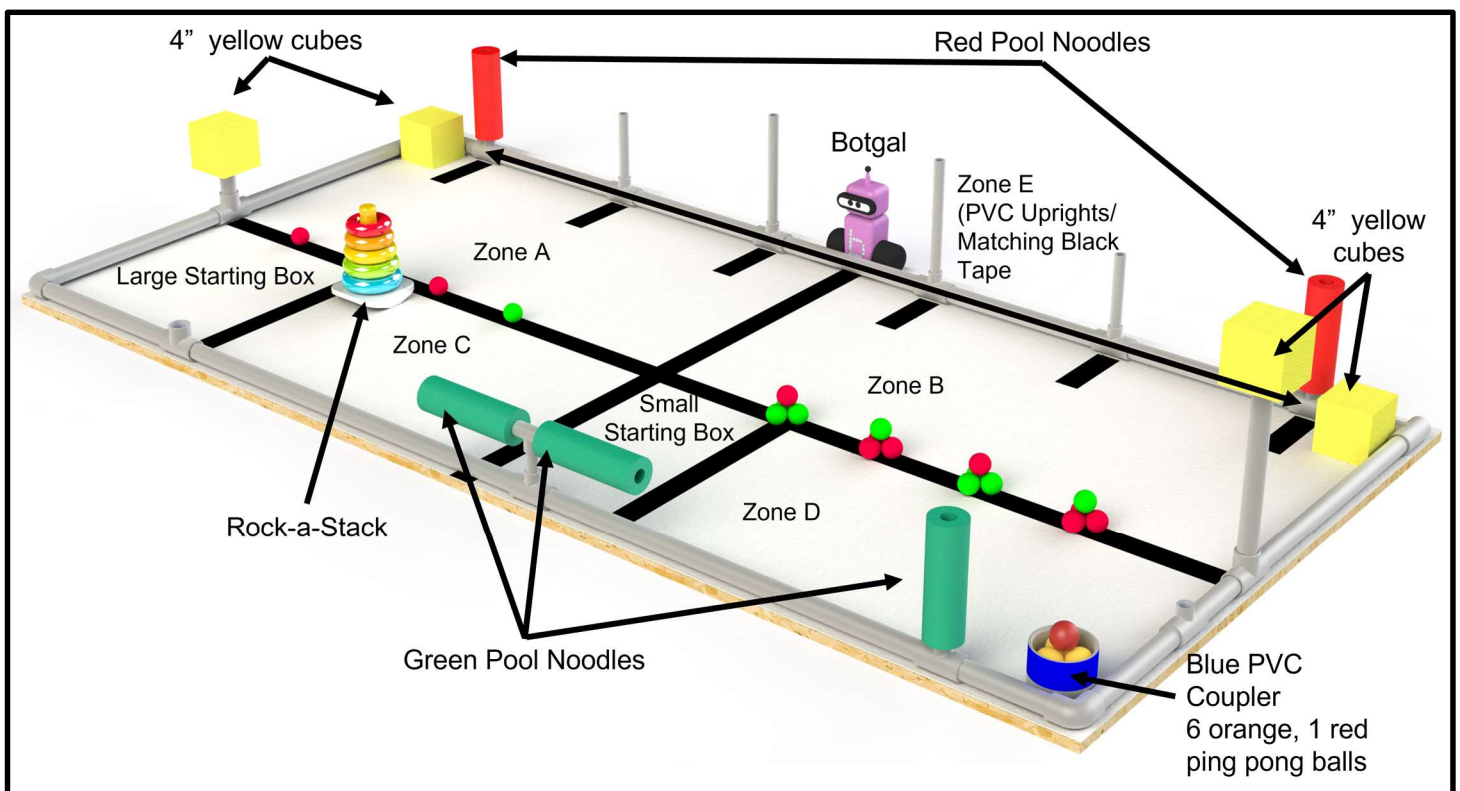

Figure 3- Game Pieces
- *Rock-a-Stack* – Will start in *Zone C* with one side coincident to the long center black tape of *Zone C* and the other side coincident to the outside of the Large Starting Box black tape line (refer to figure 3).
- *Pom Stacks* – Stacks of three poms with one pom on top (refer to figure 3) will be placed with the first stack 10.75" from the PVC in the order 3 red - green top, 3 green - red top, 3 red - green top, 3 green - red top 8" apart.